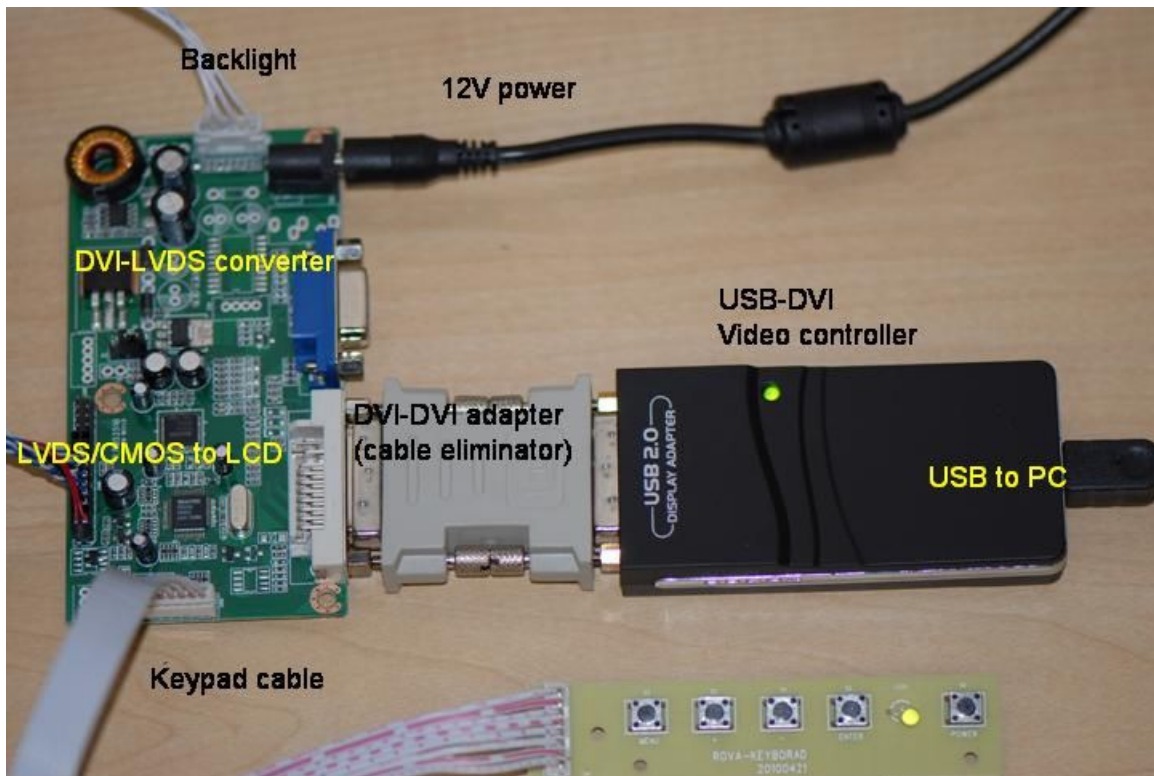

Fig 1 Kit components connected
- a. Connect the USB-DVI video controller and DVI-LVDS/CMOS converter using the DVI-DVI adapter/cable eliminator. Secure with the thumb screws (Fig 1).